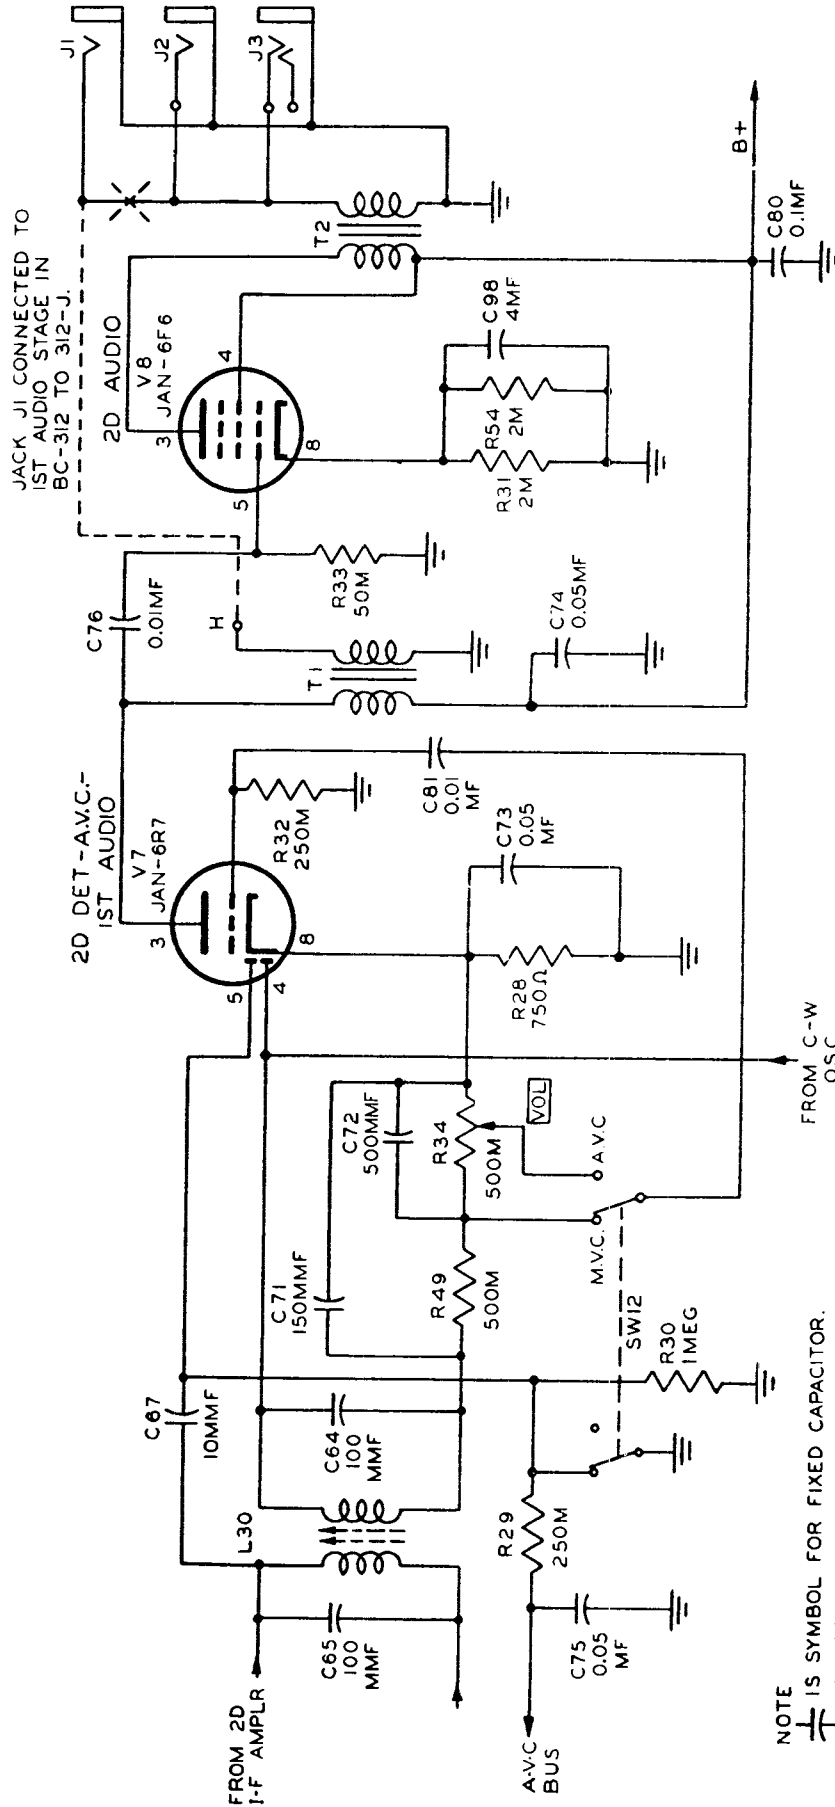

Figure 29. Detector, a-v-c, and audio amplifier stages, h-f models.
a. RADIO RECEIVERS BC-312-(*) AND BC-342-(*) (1) The second audio amplifier stage uses a Tube JAN-6F6 pentode power amplifier. The output of the first audio amplifier is coupled to the grid of the second audio amplifier tube through capacitor C76. (See fig. 29.) Resistor R33 is the grid return resistor and cathode bias for the tube is developed across parallel resistors R31 and R54 bypassed to ground by capacitor C98. Screen voltage is obtained direct from the B+ supply. The primary winding of output transformer T2 forms the plate load for tube V8 and the amplified audio signal is coupled through the secondary winding to the headset and speaker jacks J1, J2, and J3. Two taps are provided on the secondary winding of transformer T2 to provide an output of 4,000 ohms or 250 ohms, depending on the input impedance of the phones or headset to be used.